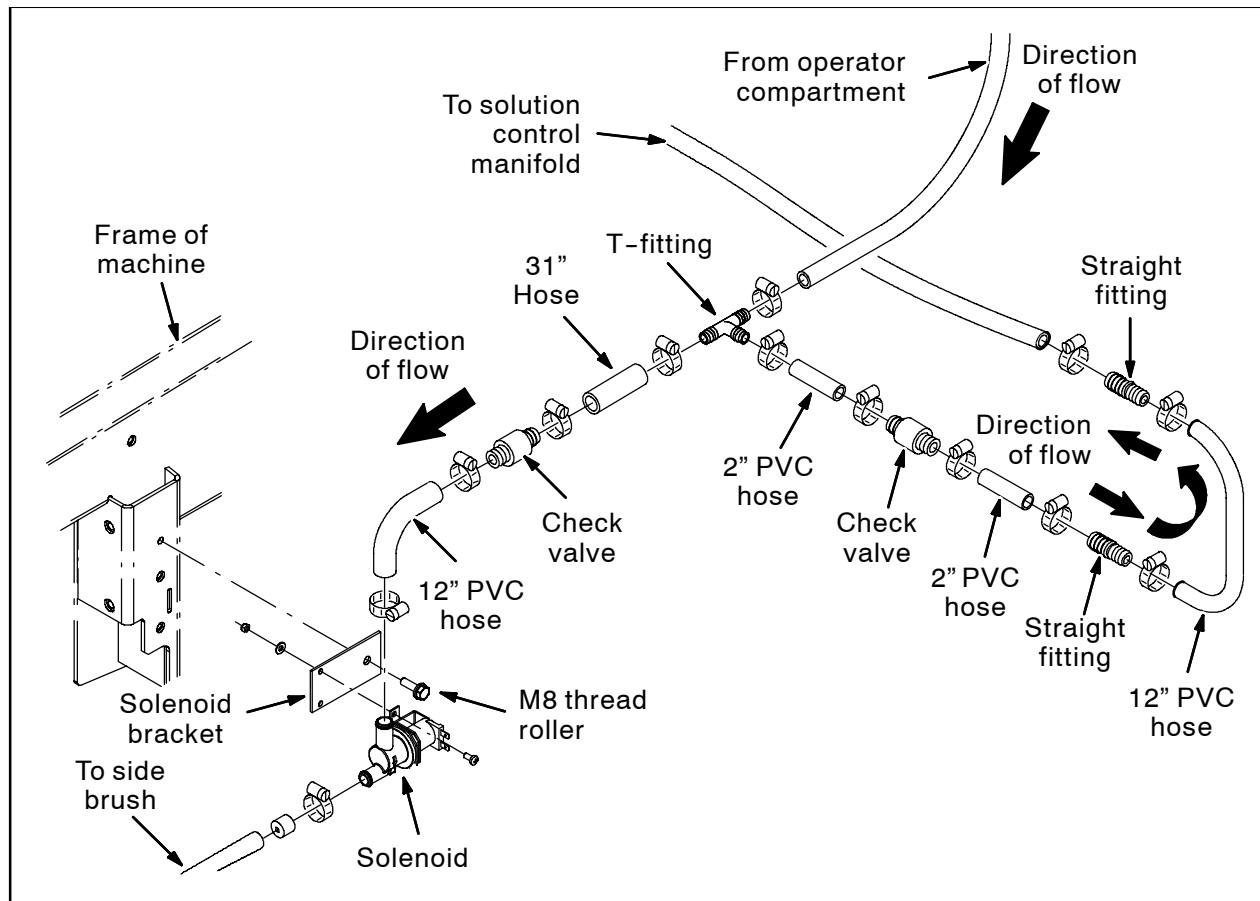

FIG. 4 - Machines With Optional Side Brush
11. Assemble the check valve, straight fittings, 12" hose, and 2" hoses as shown in Fig. 4. Note the direction of flow.
12. Use a hose clamp to connect the hose assembly assembled in the previous step to the t-fitting on the hose from the solution control manifold. Refer to Fig. 4.
14. Use two hose clamps to install a check valve between the 31" and 12" PVC hoses. Note the direction of flow. Refer to Fig. 4.
15. Use a hose clamp to install a t-fitting onto the 60" PVC hose. Refer to Fig. 4.
16. Use a hose clamp to connect the previously assembled hose assembly to the t-fitting installed on the 60" PVC hose. Refer to Fig. 4.
17. Route the end of the 96" PVC hose with the t-fitting / additional hose assembly from the operator compartment and down to the scrub head. Refer to Fig. 4.
19. Use a hose clamp to connect the additional hose assembly to the solenoid. Refer to Fig. 4.
20. Use a hose clamp to connect a 20" PVC hose to the solenoid. Refer to Fig. 4.